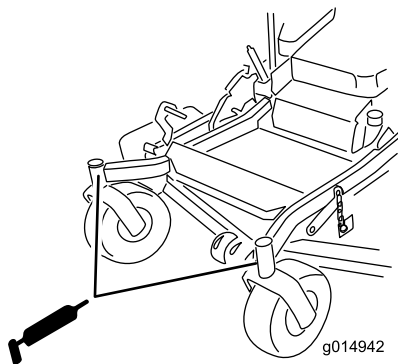

Figure 45
11. Install the hex plug and dust cap (Figure 45).
12. Grease the caster-wheel bearings (Figure 45).